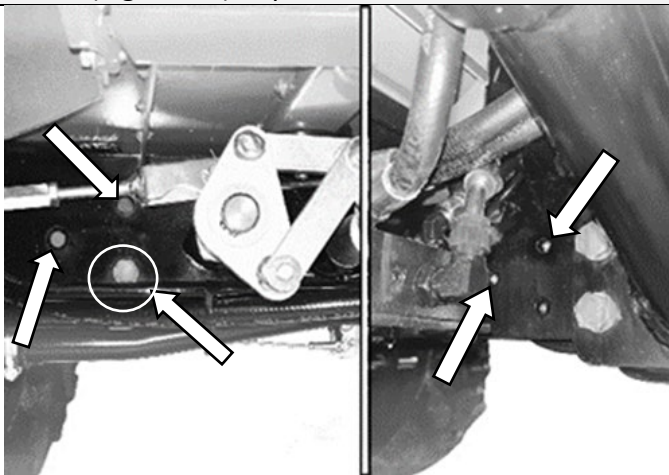
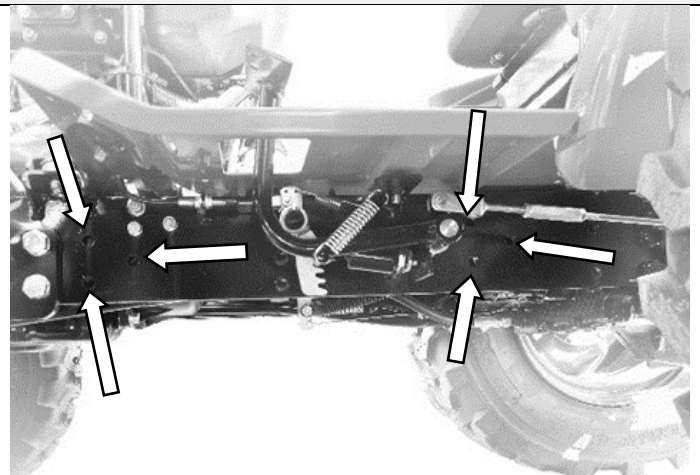
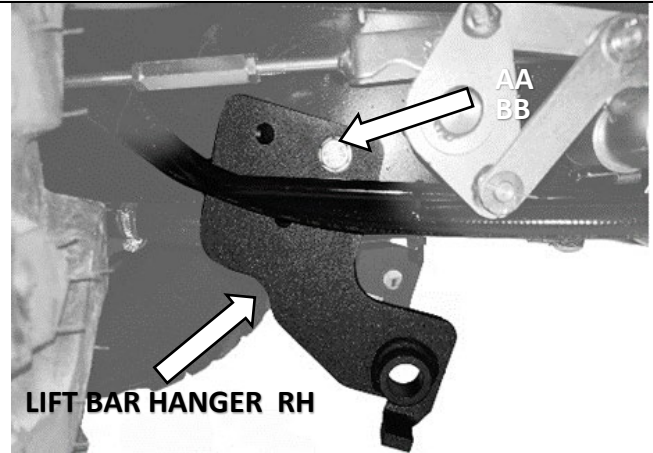

Figure 1A
Figure 2A
Figure 4A
1. Locate the hole positions on the tractor frame where the brackets will be mounted. (Figure 1A) depicts the right side of the tractor. Retain the factory bolt circled, to be used in the next step. (Figure 2A) depicts the left side of the tractor.
3. Re-install the bolt and nut previously removed (Figure 1A) along with washer AA to install the Lift Bar Hanger RH as indicated in (Figure 4A). Torque to 55 ft-lb